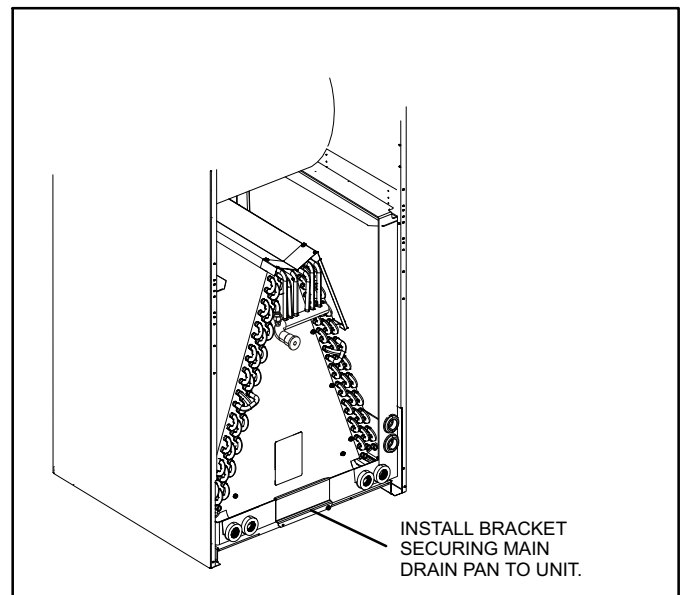

Figure 20. Install Main Drain Pan Mounting Bracket (-018 through -036)
5. Re-install modified coil/drain pan assembly in air handler in the same orientation as before (figures 20 and 21).